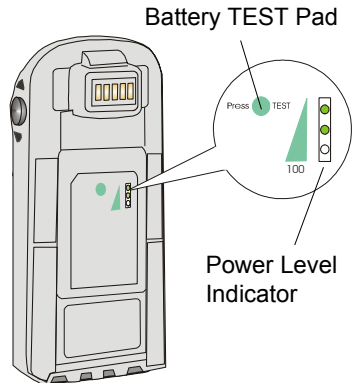

Figure 5. Battery Power Test
The UOD unit is used for charging the X-Pad battery and communicating with the X-Pad through an IrDA port. Each UOD unit has nine slots. Each slot may accommodate either a X-Pad with a battery attached, or a battery (stand-alone). Each of the nine slots has a status LED with an associated number. The LEDs are laid out in the same order as the slots. When a slot is empty, its corresponding LED is Off. When a battery or a X-Pad with a battery is inserted to a slot, the slot LED turns On, indicating the battery charge (see Table 1). The battery power can also be tested by pressing the battery power TEST button (see Figure 5).
**Note:** Out of box batteries are in sleep mode. Press the TEST pad, at the back side of the battery (see Figure 5) for at least two seconds before any attempt to charge or use. Pressing the TEST button awakes the battery gas-gauge.